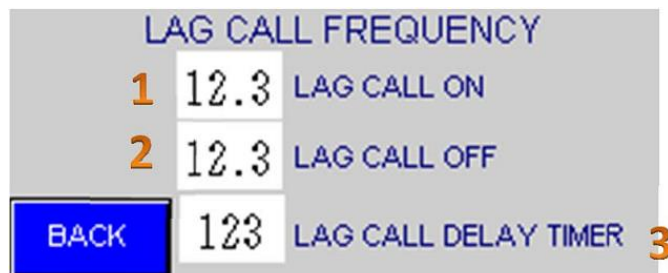

Figure 21. Lag Pump Call Settings Screen
5. **Lag Pump Menu.** Displays the lag call and off menu screen, Figure 21.